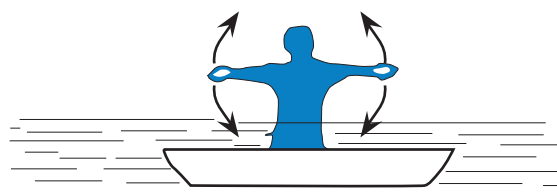

Figure 62.1 Signal to attract attention
10. If you are in trouble, try to stay calm, stay with the board and use the signal to attract attention as shown in Figure 62.1.